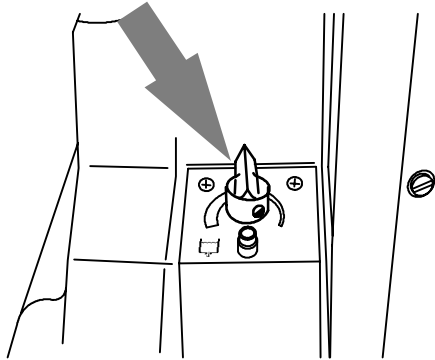

FIG. 28
- Adjust solution flow rate. Turn solution flow knob counter-clockwise to increase flow or clockwise to decrease (Figure 28).